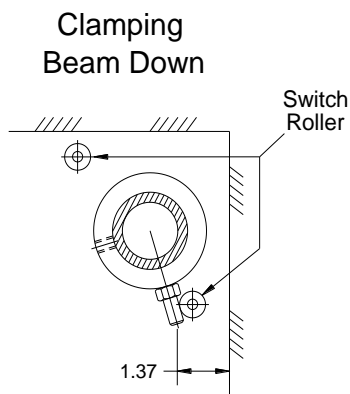

figure 25
3. Rotate the collar until the dimension (fig. 25) from the tip of the actuator bolt to the wall is reached. (clamping beam down)